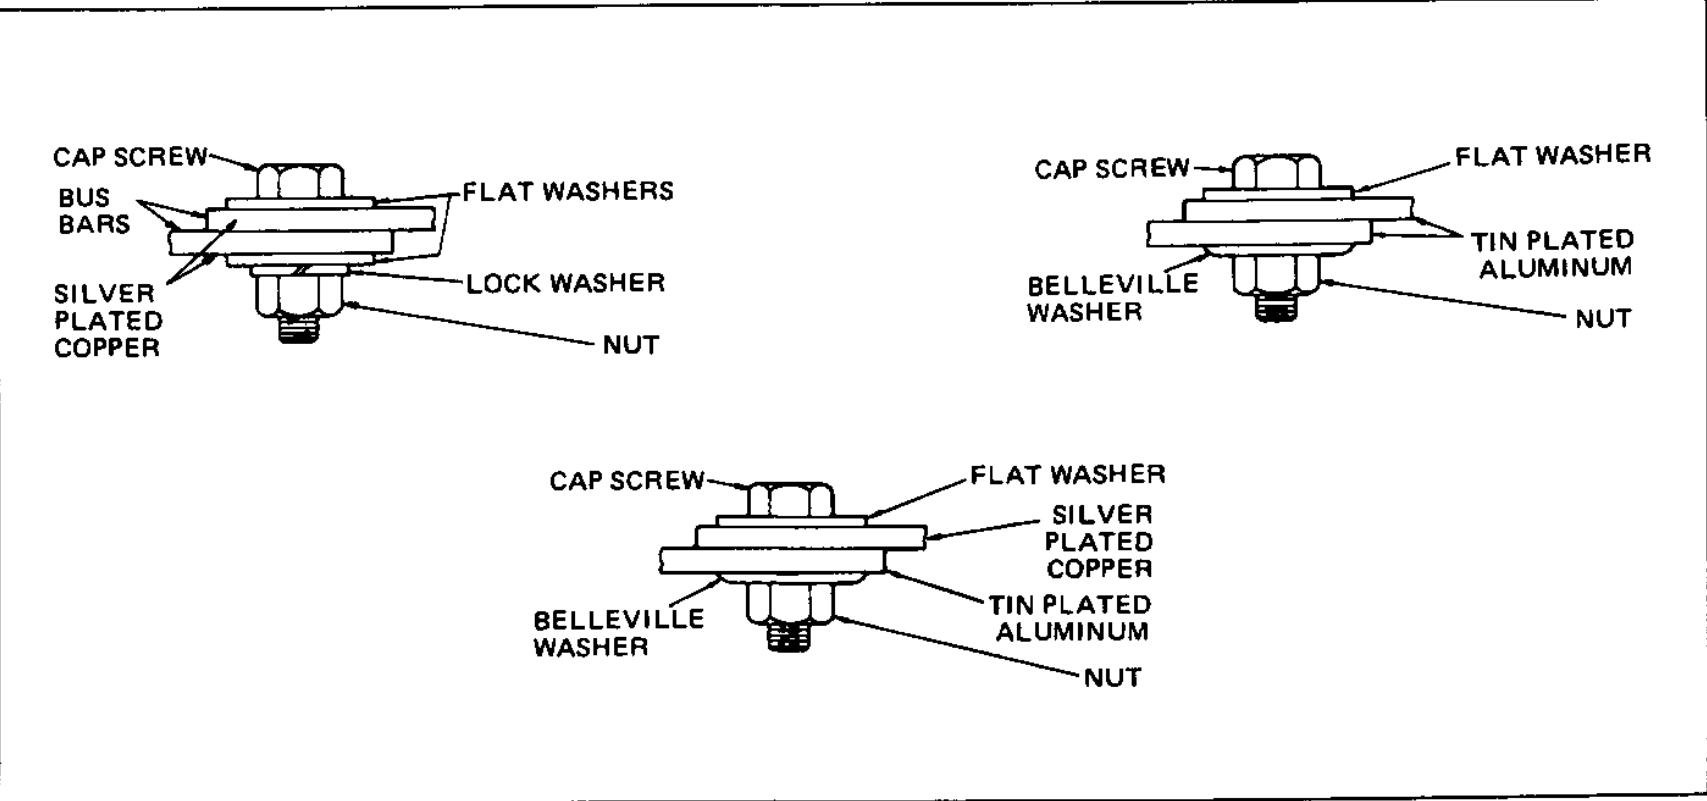

Figure 19. Bus Bar Joint Assembly (Bolted)
2. Assemble all joints as shown in Fig. 19.
Notice in Fig. 19 heavy washers are used on both sides of the bus bar joint—under the cap screw head as well as under the nut and lockwasher. These washers insure an evenly distributed force around each screw, producing a low resistance joint. The torque value of approximately 75-lb. ft. (102 N·m) produces a joint of adequate pressure without cold flow.